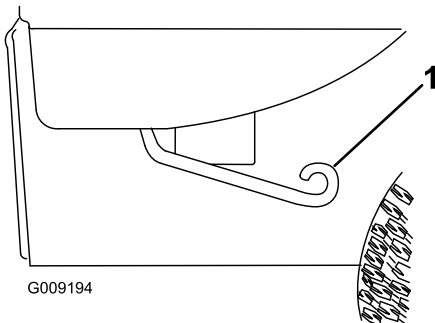

Figure 17
1. Lift the lever on either side of the box and lift the box up (Figure 17).